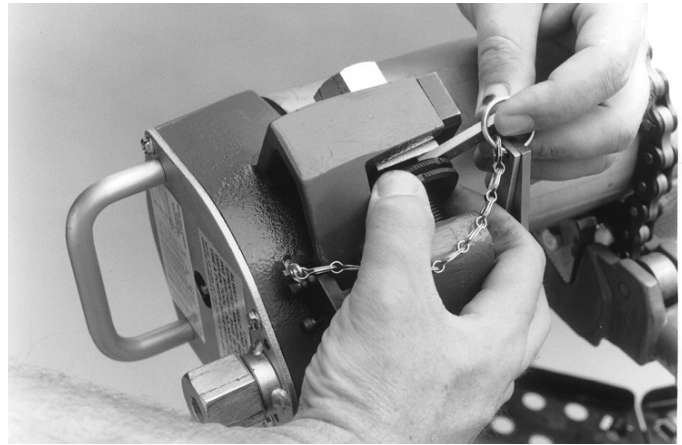

Fig. 3. Setting Gauge Depth
2. Locate the groove depth gauge attached to the tool which is identified with the pipe size to be grooved. Turn the depth stop collar, closest to the trunnion, until the distance between the collar and the top of the trunnion is equal to the groove depth gauge thickness. Use the groove depth gauge like a feeler gauge. (See Figure 3.)